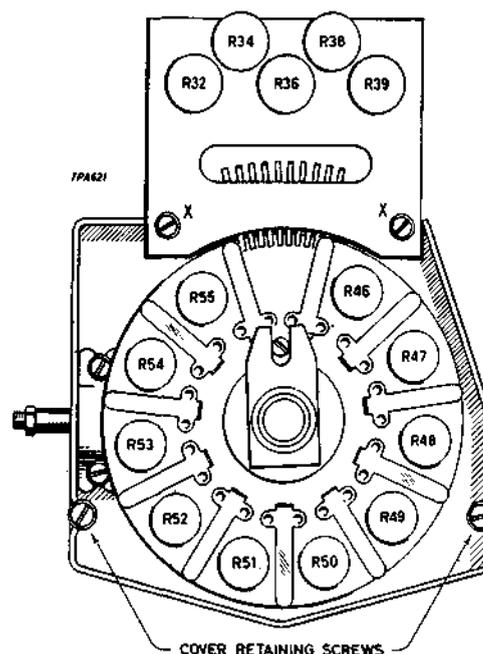

Fig. 4.5 Part of balance switch assembly
- (1) Remove the cover plate round the switch assembly (see Fig. 4.5).
- (2) Remove the two 6BA screws (marked 'x' in Fig. 4.5) from the resistor plate, and carefully lift off the plate complete with the stator wipers.
- (1) Slacken the four socket screws in the flexible coupling and slide the coupling and ball thrust bearing on to the potentiometer spindle.
- (2) Slacken the socket screws in the spider bush at the end of the spindle and remove the spider. Remove the circlip from behind the rotor and slide the rotor off the spindle.
- (b) When refitting the COARSE BALANCE switch assembly, the pointer should indicate zero on the large dial with the switch contacts making as shown in Fig. 4.5.